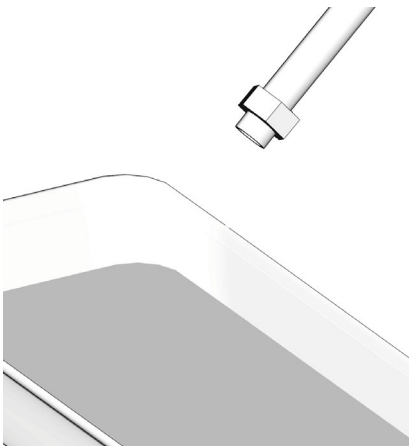

FIG. 6
- Place end of the hose in a waste bucket (FIG. 6).